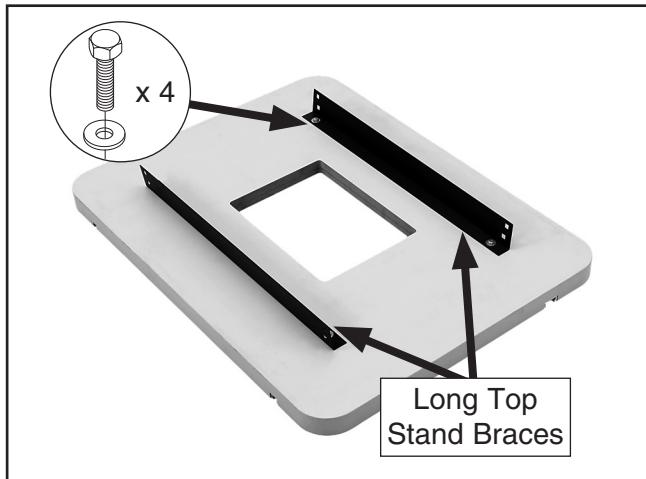

Figure 2. Long top stand braces attached to the underside of the table.
1. Turn the table upside down on a protective surface, then attach the (2) long top stand braces to the table with (4) M6-1 x 18 hex bolts and 6mm fender washers, as shown in **Figure 2**.